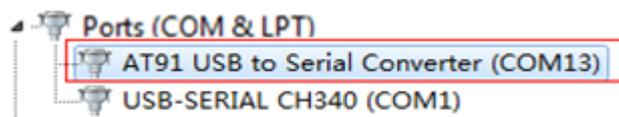

Figure 3-13
(1) Install samba software (version 2.11 or above, the installation package in 03-Tools\SAM-BA file folder). If install samba (below version 2.11), uninstall it cleanly.
(2) Connect board to PC by mini USB and power on.
(3) Turn SW1, SW2 off (Note to disconnect the baseboard JP8 jump line, otherwise the computer will not recognize the development board), press NRST to reset board, and you will see tips of installing driver after a certain period of time. The device is shown in figure 3-13: